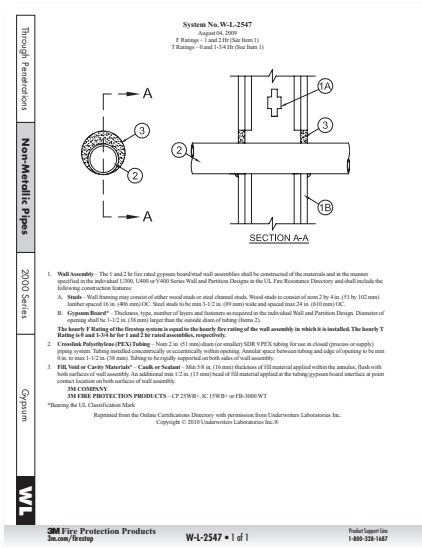

Figure 3-14: Fire Assembly Document
- (See **Figures 3-14, 3-15 and 3-16.**)